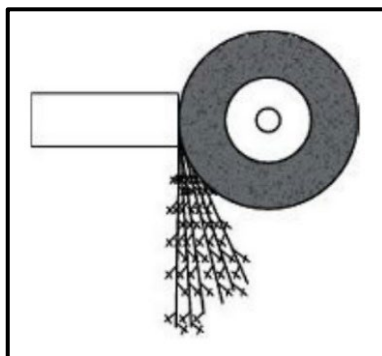

FIGURE 1.4
- D bending the work piece. (1)
- 1.4 FIGURE 1.4 below shows a spark test being conducted. Identify the type of material with reference to the spark pattern.